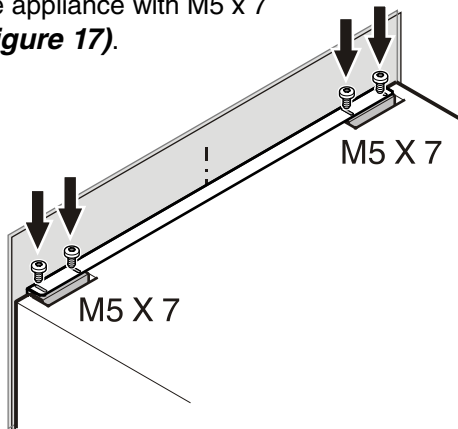

Figure 17
4. Secure the appliance with M5 x 7 screws (Figure 17).